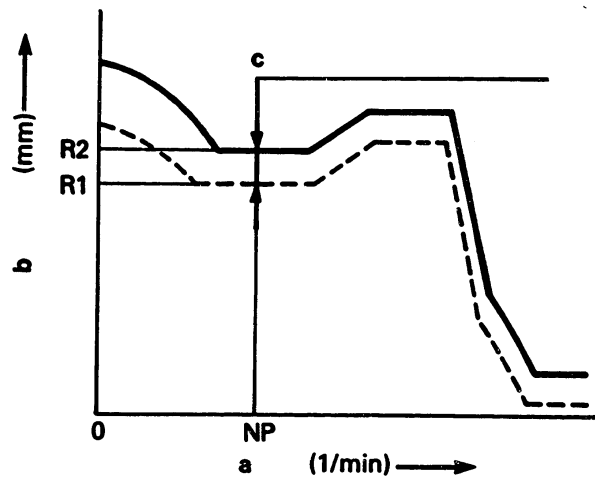

Fig. 102 Governor "full-load" performance
6. Maintaining the pump speed at "Np" rpm, fix the measuring device scale with the indicator at control rack position "R2" mm. (Figs. 102 and 105)